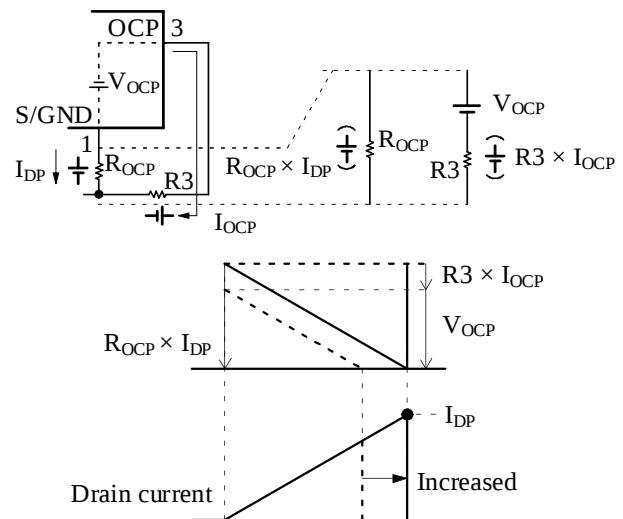

Figure 8-29. Without OCP Input Compensation Function
The overcurrent detection threshold voltage without an OCP input compensation circuit, V_{ROCP} , is calculated by Equation (8). When V_{ROCP} with reference to the S/GND pin becomes equal to the sum of V_{OCP} and the voltage across R3 (i.e., $R3 \times I_{OCP}$), OCP is activated (see Figure 8-29).
The peak drain current during OCP operation without OCP input compensation circuit, $I_{DP(OCP)}$, is expressed by Equation (10) obtained from Figure 8-29. $I_{DP(OCP)}$ is equal to the drain current limited by overcurrent detection threshold voltage without OCP input compensation in the minimum AC input voltage condition.